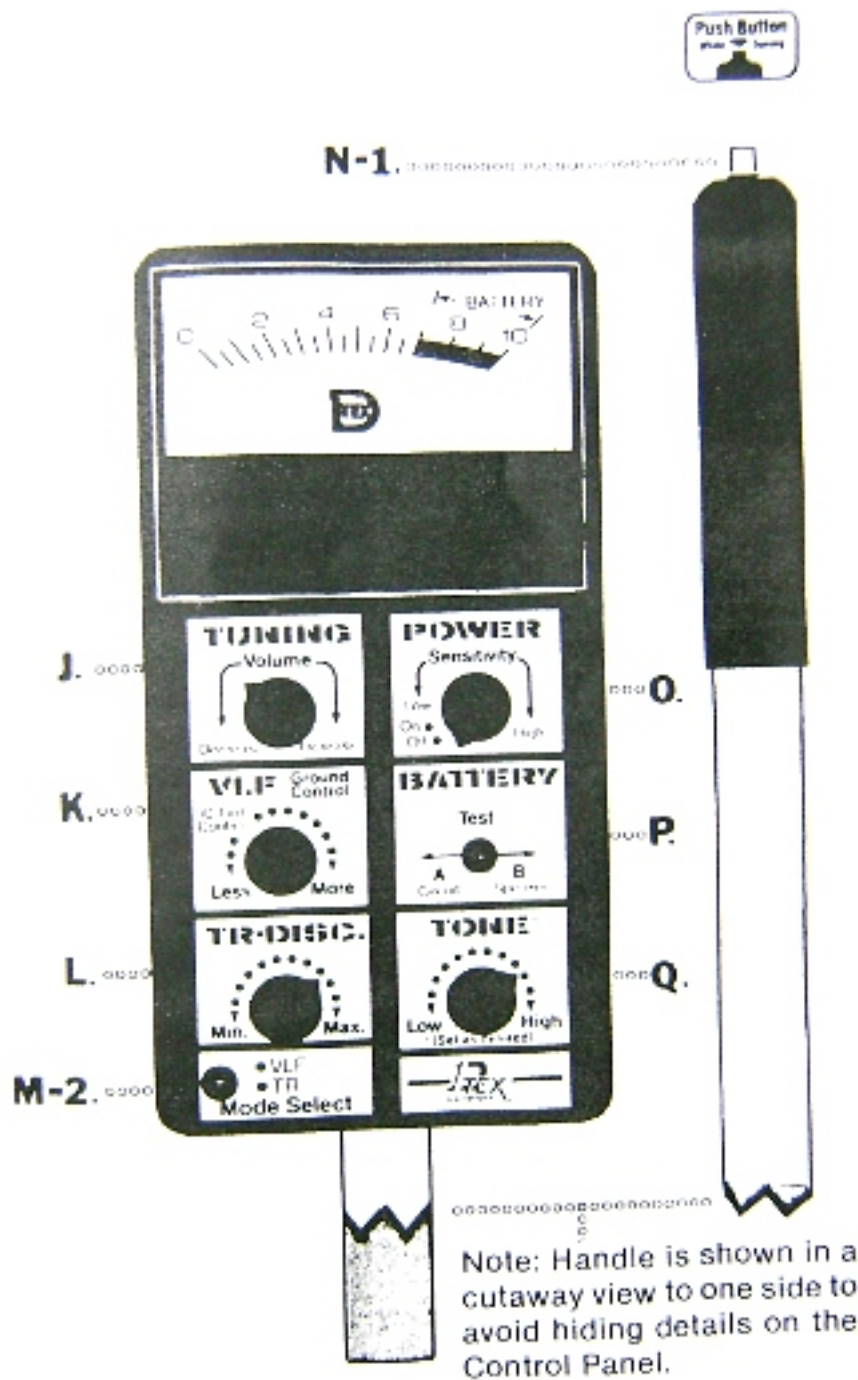

FIGURE 3 — For MK-5 and MK-10 Models Only
| MK Panel —Figure 3 | 9 |
MONEY KING (MK) MODELS (See Figure 3)
4. **DISCRIMINATION — HOW TO SET (See Figure 3)**
5. CHECKING BATTERIES (See Figure 3)
7. **SELECTING SOUND PITCH (See Figure 3)**
8. **MINERAL COMPENSATION (See Figure 3)**